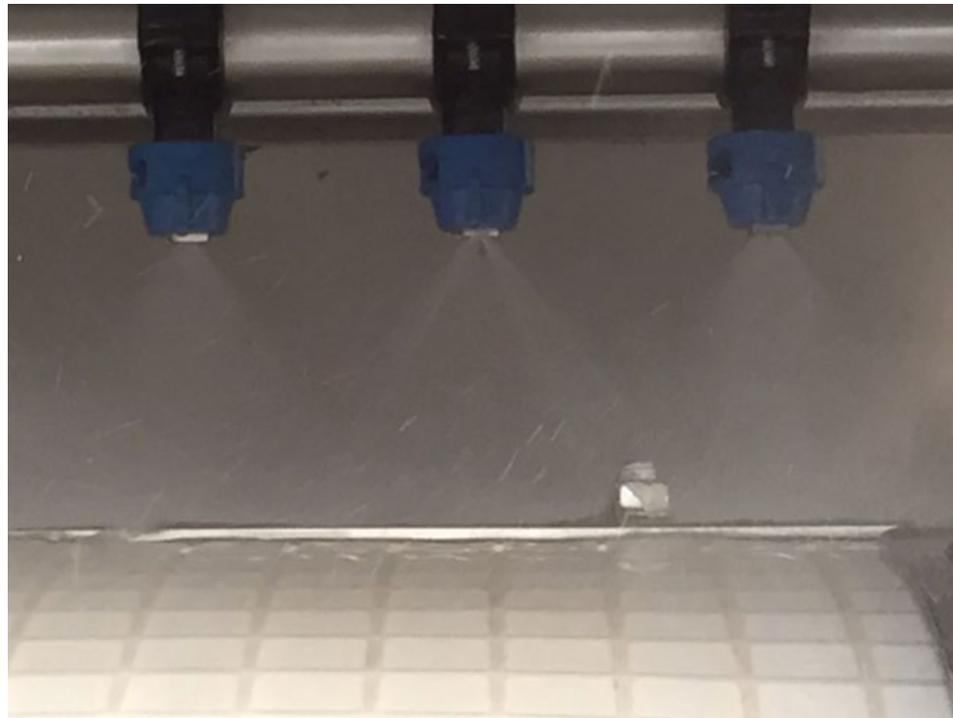

Figure 3. Spray nozzles operating normally during a filter backwash cycle.
2. Confirm that all spray nozzles are working properly and are not clogged during the drum filter backwash cycle (Figure 3). Each spray nozzle should produce an even fan pattern, but nozzle